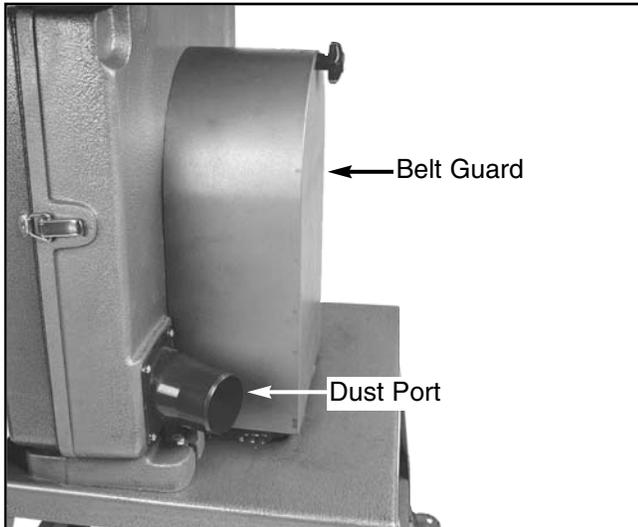

Figure 15. Belt guard and dust port mounted correctly on bandsaw.
Place the belt guard over the step pulley and secure it, as shown in **Figure 15**, to the stand using the 1/4"-20 x 1/2" hex head bolts, washers, and nuts provided. Fasten the guard to the bandsaw by inserting the threaded rod through to the body casting and tightening the knob.
1. Remove the four dust port mounting screws from the bandsaw body and position the dust port as shown in **Figure 15**.